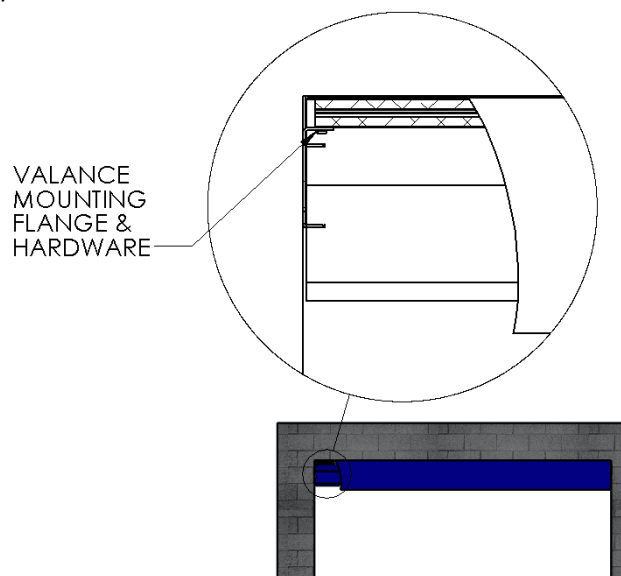

Figure 6 INSTALL VALANCE ASSEMBLY
1. Install the Valance Assembly onto the top of the bent flanges of the installed Header Mounting Brackets using the hardware provided in the Valance Beam. (Figure 6 INSTALL VALANCE ASSEMBLY)